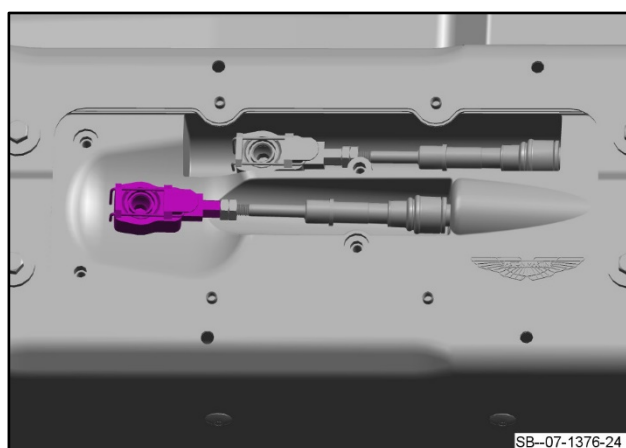

Figure 19
21. Remove the ball joints from the shifter cable (refer to Figure 19).